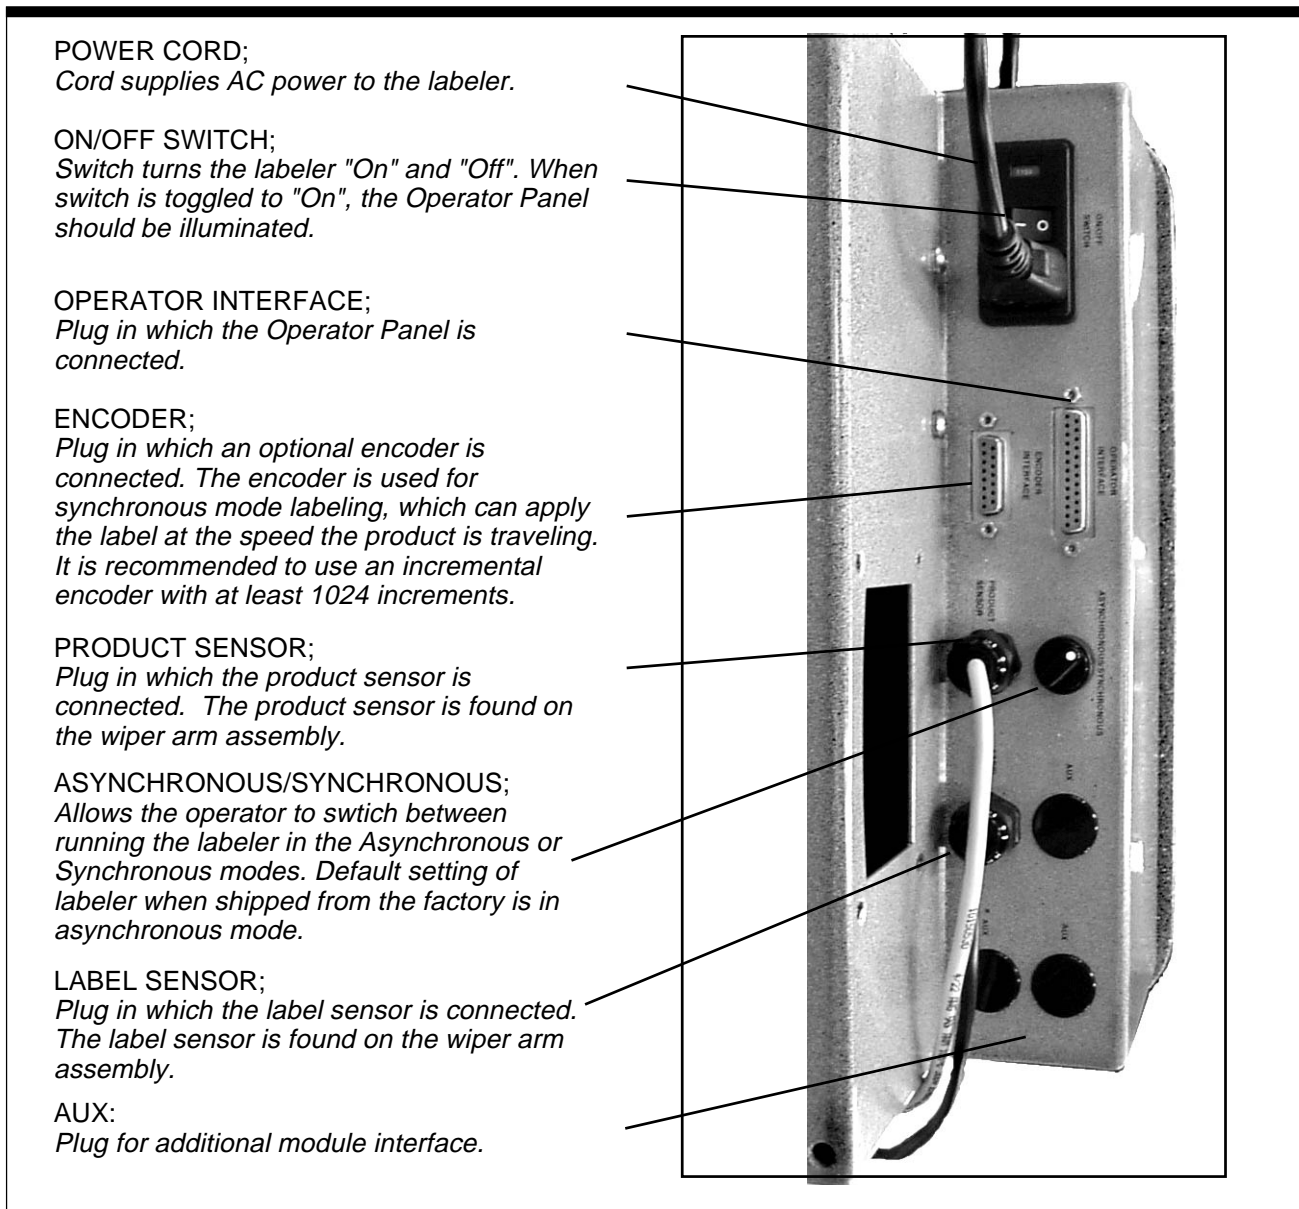

Figure 3-7. Interface Panel
Connections for the interface panel are found on the side of the labeler (refer to *Figure 3-7* below). These connections are easily accessible for quick changeover between modes of operation. The following is an explanation of each device:
- Step 1.** Remove the power cord from the main power switch (*Figure 3-7*).